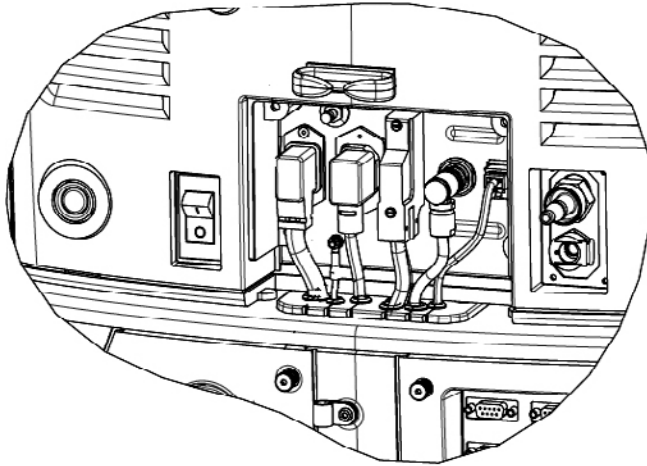

Figure 7-10. Table Top/Base Console Connections
25. Connect base console cables to table top as shown in Figure 7-10